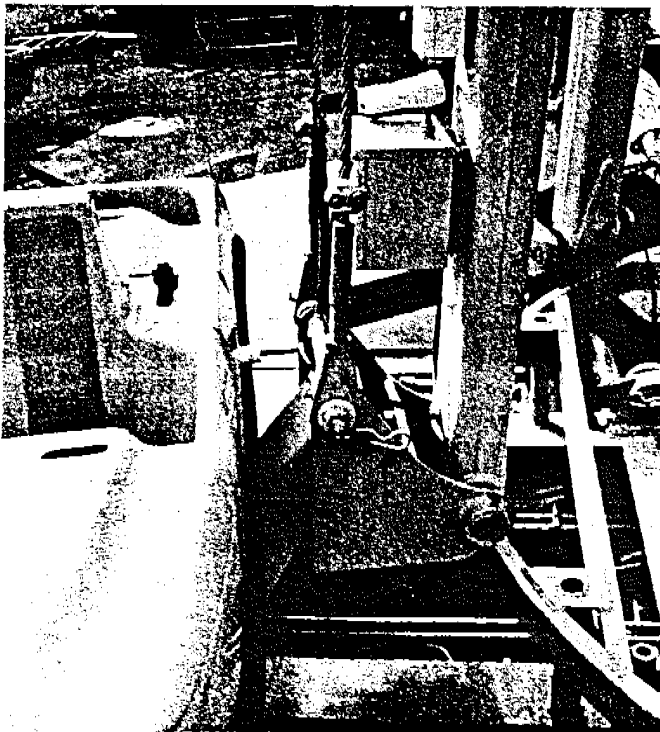

Fig. 40
- e. Install the car onto an arm and PIN AND SNAP KEY IN PLACE. (Fig. 40)